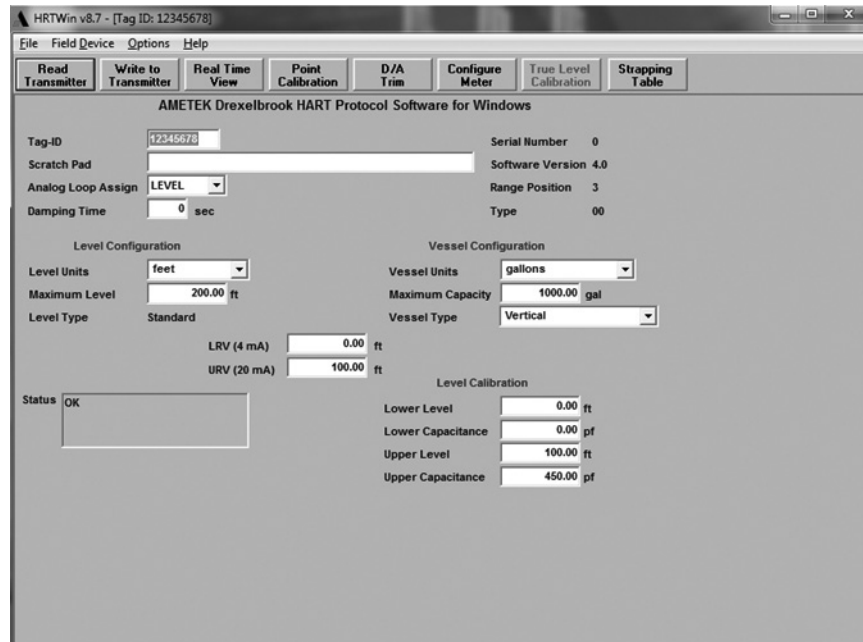

Figure 3-3
- G. The next view, shown in *Figure 3-3*, appears automatically, displaying current transmitter database for calibration set-up for your selected Tag ID. The Scratch Pad will automatically show the last message (last user, last calibration, etc.) up to 32 characters. If this is a new transmitter, the Tag ID is user-defined. Serial number, transmitter software version, range, etc. is automatically entered from the "name plate data" embedded in the transmitter:
Figure 3-3 shows a PC calibration software menu screen. The following paragraphs describe the function buttons. The data fields are described in *Section 3.4 Configuration*.
Refer to **Figure 3-3** PC Software Menu Screen.
See Figure 3-3 (lower right of window)